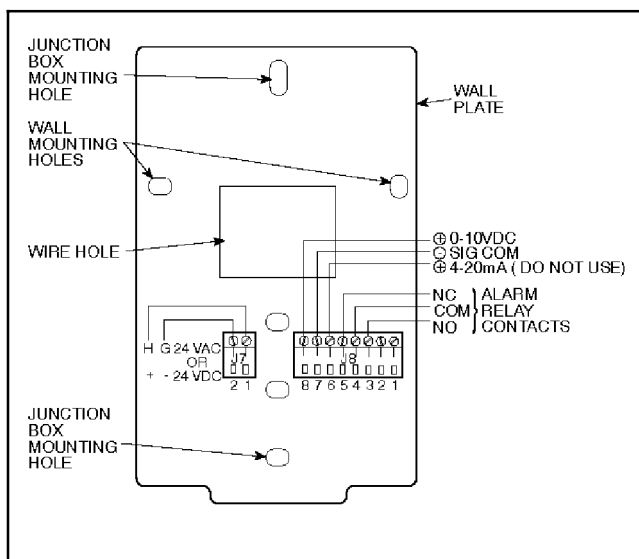

Fig. 6 - CO₂ Sensor Wiring Diagram
5. A two-wire cable is required to wire the dedicated power supply for the sensor. The two wires should be connected to the power supply and terminals 1 and 2. See Fig. 6 and Table 1.
11. Connect the plug on the CO₂ sensor wiring harness to plug PL-18 on the unit wiring harness. See Fig. 6 and Table 1 for wiring information.
10. Route the wires through the patch plate on the economizer. Wire the harness to the sensor. See Fig. 6 and Table 1 for wiring information.
8. Route the wires through the patch plate on the economizer. Wire the harness to the sensor. See Fig. 6 and Table 1 for wiring information.